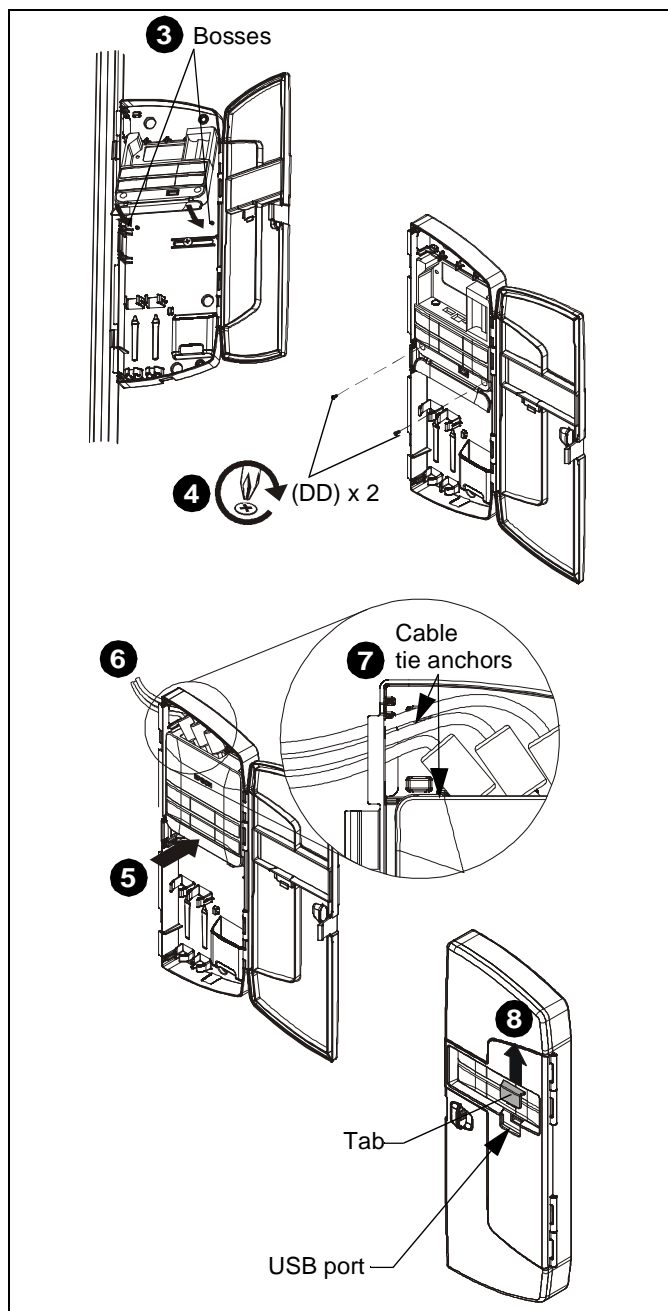

Figure 18
3. Align holes in control pad with bosses in control housing and push control pad into place. (See Figure 18)
4. Secure control pad into place using two #4-24 x 1/4" Phillips pan head screws (DD). Do NOT over tighten. (See Figure 18)
5. Close lower cover of control pad. (See Figure 18)
6. Attach all cables, including IR cable (NN), to control pad following instructions included with projector/control pad.
7. Use cable ties (R), as necessary, to secure the cables within control panel. (See Figure 18)
8. **OPTIONAL:** The tab in the control panel assembly door may be removed to allow attachment to the USB port. (See Figure 18)